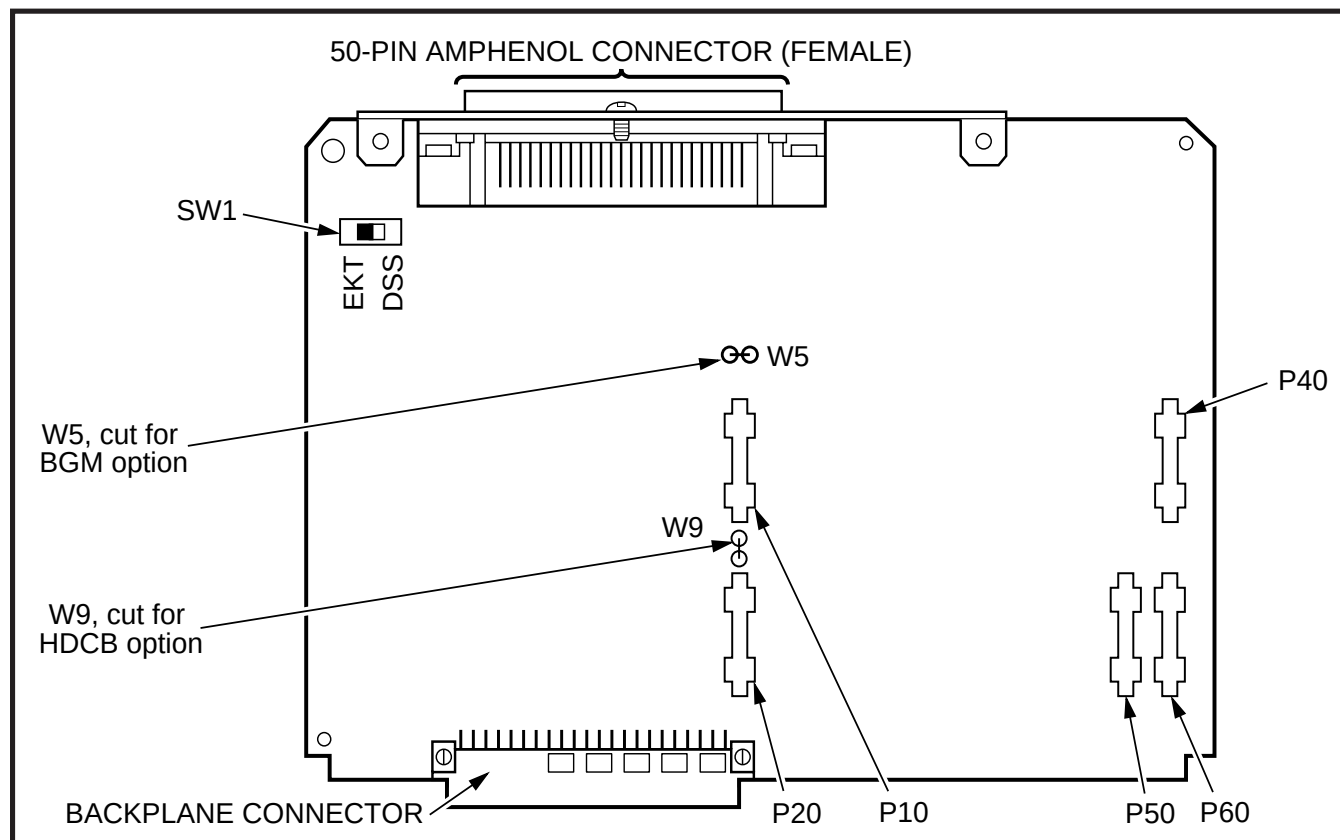

FIGURE 6-5
5.04 PEKU controls and interface connectors are shown in Figure 6-5 and described in Table 6-B.
*PEKU connectors **P10**, **P20**, **P40**, **P50**, and **P60** are positioned to allow installation of the EOCU only in the proper position (Figure 6-5).*